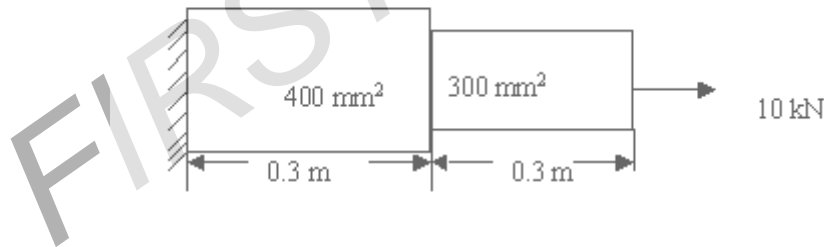

Figure 8
3. Determine the natural frequencies and mode shapes of a stepped bar as shown in figure 8 using the characteristic polynomial technique. Assume  $E = 250 \text{ GPa}$  and density is  $7850 \text{ kg/m}^3$ . [16]